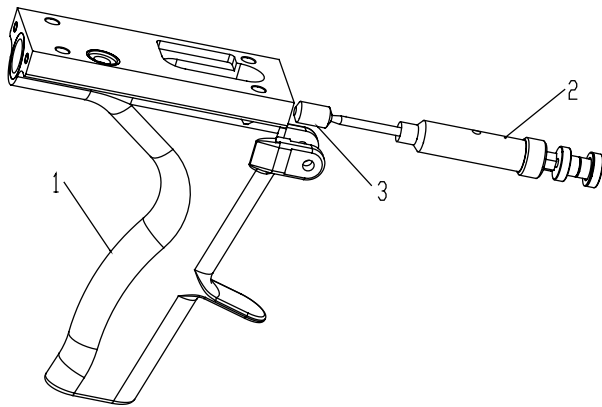

Figure 21: Needle Packing Assembly
2. Lay the handle assembly on its side marked “X” (See figure 21) and support the area under the trigger tangs, leaving the roll pin clear.
5. Reverse the handle assembly so that the side marked "X" is up (Reference Figure 21). Insert trigger, making sure that the curved lower tip of the trigger is pointed away from the handle and the thrust washer is to the front of trigger.
NEEDLE PACKING ASSEMBLY (Figure 21)
5. Place the new packing (Item 52) on the needle assembly (see Figure 21).